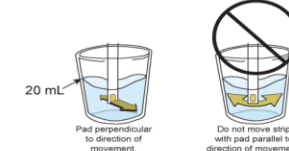

Figure 1
4. Immerse indicator pad of test strip in sample water and vigorously move back and forth for 10 seconds. See Figure 1. (Approximately 30-35 back and forth strokes in 10 seconds.) The indicator pad must be perpendicular to the direction of the strip movement.